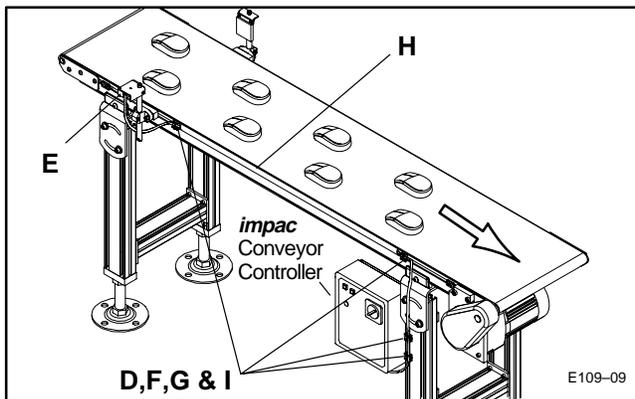

Figure 9: Photo-Eye Cable Routing to *impac* Conveyor Controller
- e. Figure 9 shows a typical wire routing of a Photo-Eye connection to an *impac* Conveyor Controller using the conveyor's T-slot with both T-slot Cover Strips and Zip Ties (I).